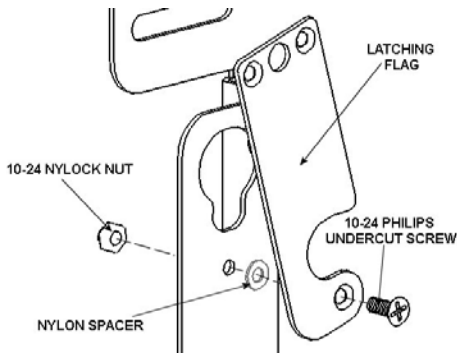

Figure 3
1. Secure latching flags to the inside mounting hole of the mount using two 10-24 x .5 FH undercut screws, two Nylon washers, and two 10-24 Nylock nuts (see Figure 3). Tighten until friction will hold the flags in place.